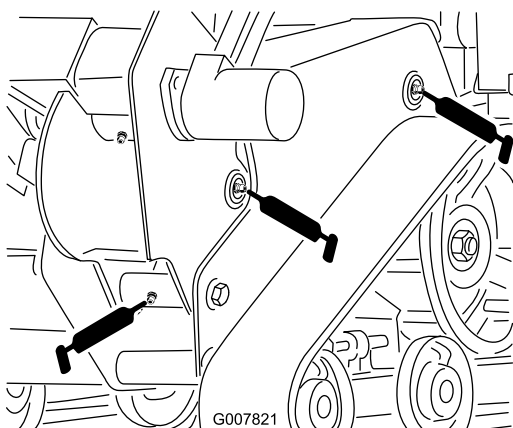
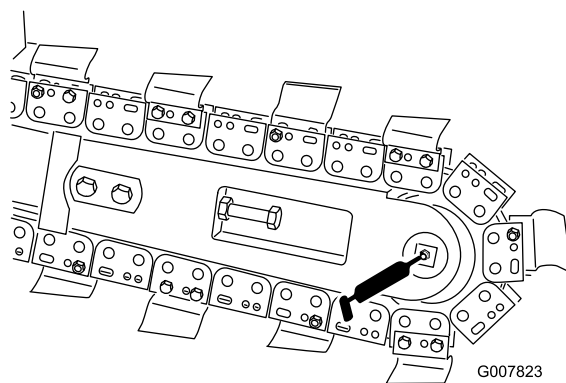

Figure 22
Figure 24
4. Connect a grease gun to each fitting (Figure 22 through Figure 24).